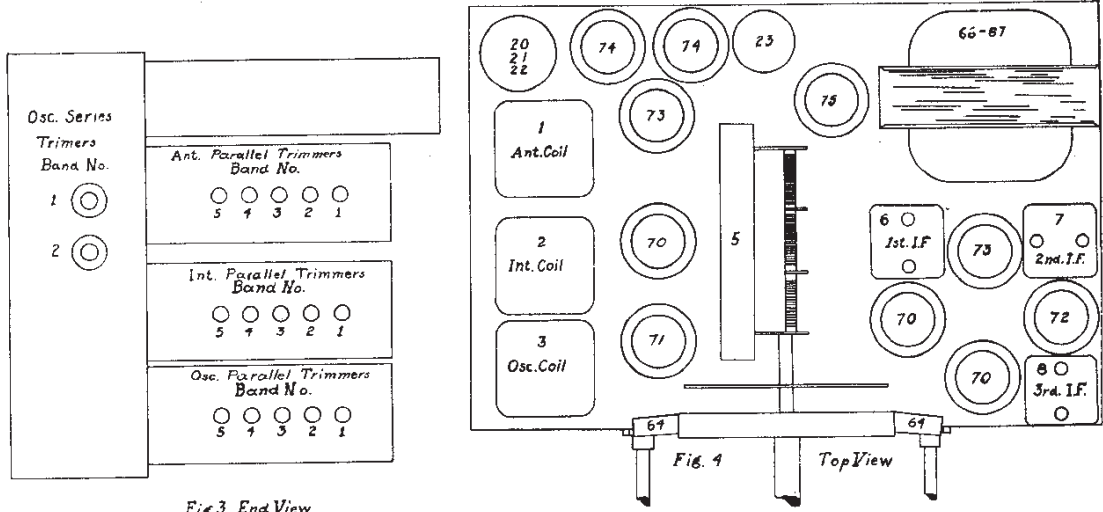

Fig. 3 End View
(a) Set test oscillator at 350 Kc. Tune station selector to 350 Kc. (35 on dial). Then adjust oscillator parallel trimmer condenser, Fig. 3, for maximum output.
(2) Tune station selector in the region of 135—Band No. 1—on dial for maximum reading on the output meter.
(3) Close the oscillator series trimmer condenser for Band No. 1, Fig. 3,  $\frac{1}{8}$  turn and re-tune station selector to 150 Kc. signal for maximum output, noting reading on output meter.
(4) If meter reads higher after operation (3) repeat the operation again and again until no further improvement in the reading of the output meter can be obtained. If meter reads lower after operation (3) open the oscillator series trimmer condenser  $\frac{1}{8}$  turn and re-tune station selector to 150 Kc. signal, noting reading on output meter as above and repeat as many times as necessary to obtain the highest meter reading. Do not reset the parallel trimmer condensers at this frequency.
(2) Tune station selector in the region of 60—Band No. 2—on dial for maximum reading on the output meter.
(3) Close the oscillator series trimmer condenser for Band No. 2, Fig. 3,  $\frac{1}{8}$  turn and re-tune station selector to 600 Kc. signal for maximum output, noting reading on output meter.
(4) If meter reads higher after operation (3) repeat the operation again and again until no further improvement in the reading of the output meter can be obtained. If meter reads lower after operation (3) open the oscillator series trimmer condenser  $\frac{1}{8}$  turn and re-tune station selector to 600 Kc. signal, noting reading on output meter as above and repeat as many times as necessary to obtain the highest meter reading. Do not reset the parallel trimmer condensers at this frequency.